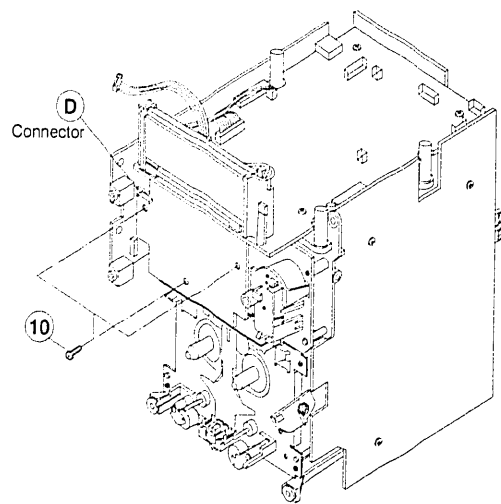

Fig. 8
7. **Removal of Switch P.W.B (Fig. 8)**